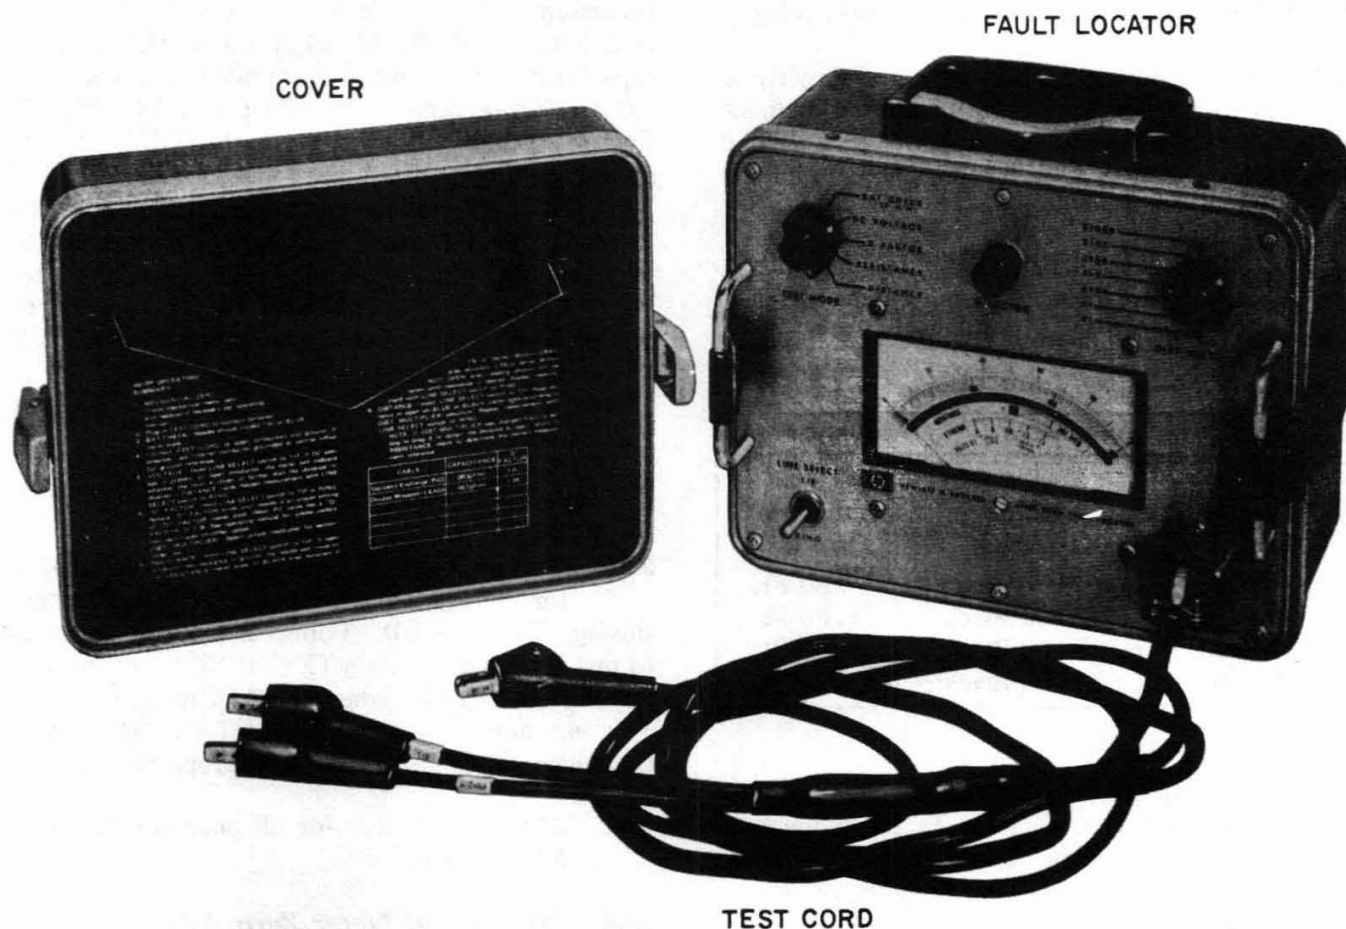

Fig. 1—Delcon 4910F
- 1.02** This section is reissued to add the Delcon 4910F Open Fault Locator (Fig. 1).